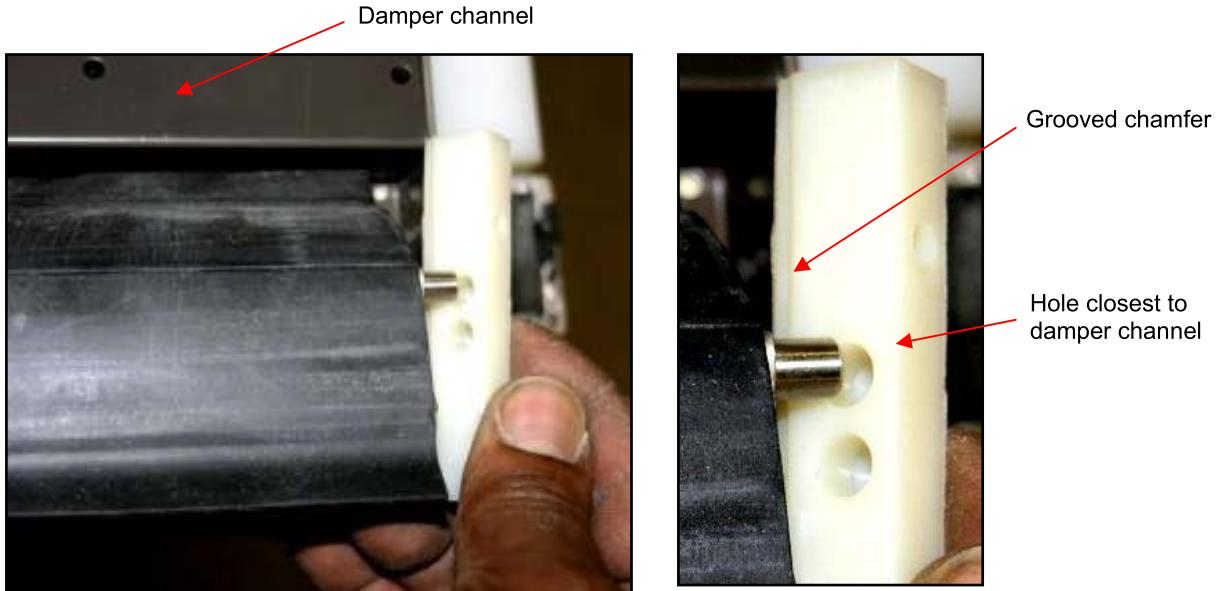

Fig. 6.1.5 – Inserting stagnation-control device into hinge blocks
5. Install white plastic hinge blocks on shaft ends (Fig. 6.1.5). Note that grooved chamfer is down and shaft must be inserted into hole closest to damper channel (Fig. 6.1.5).